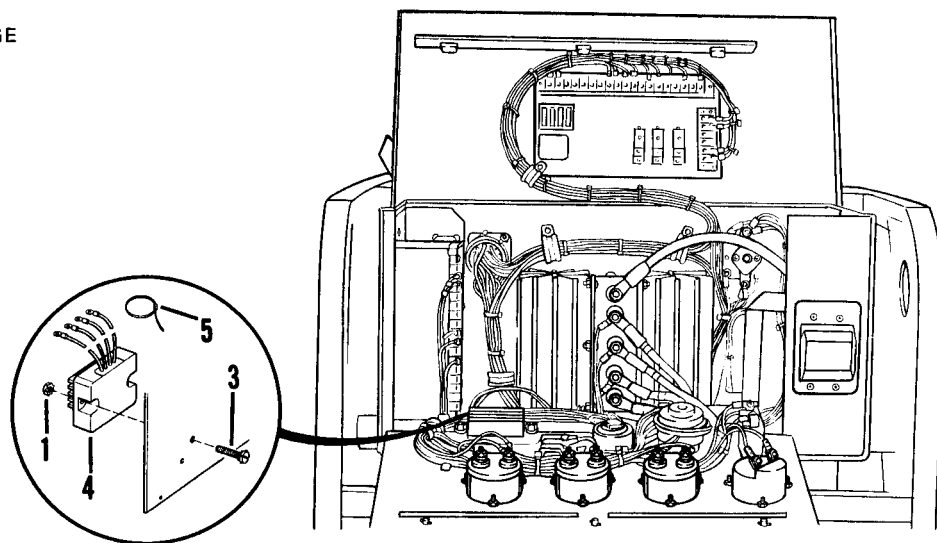

Figure 4-12. Voltage Regulator, Battery Charging.
c. Removal. (see Figure 4-12)
- (1) Follow four wires from voltage regulator to connection points. Tag wires and note locations of terminals. Disconnect four wires. Cut plastic tie wraps as necessary.
- (2) Remove nuts (1), and screws (2). Remove the voltage regulator (3).